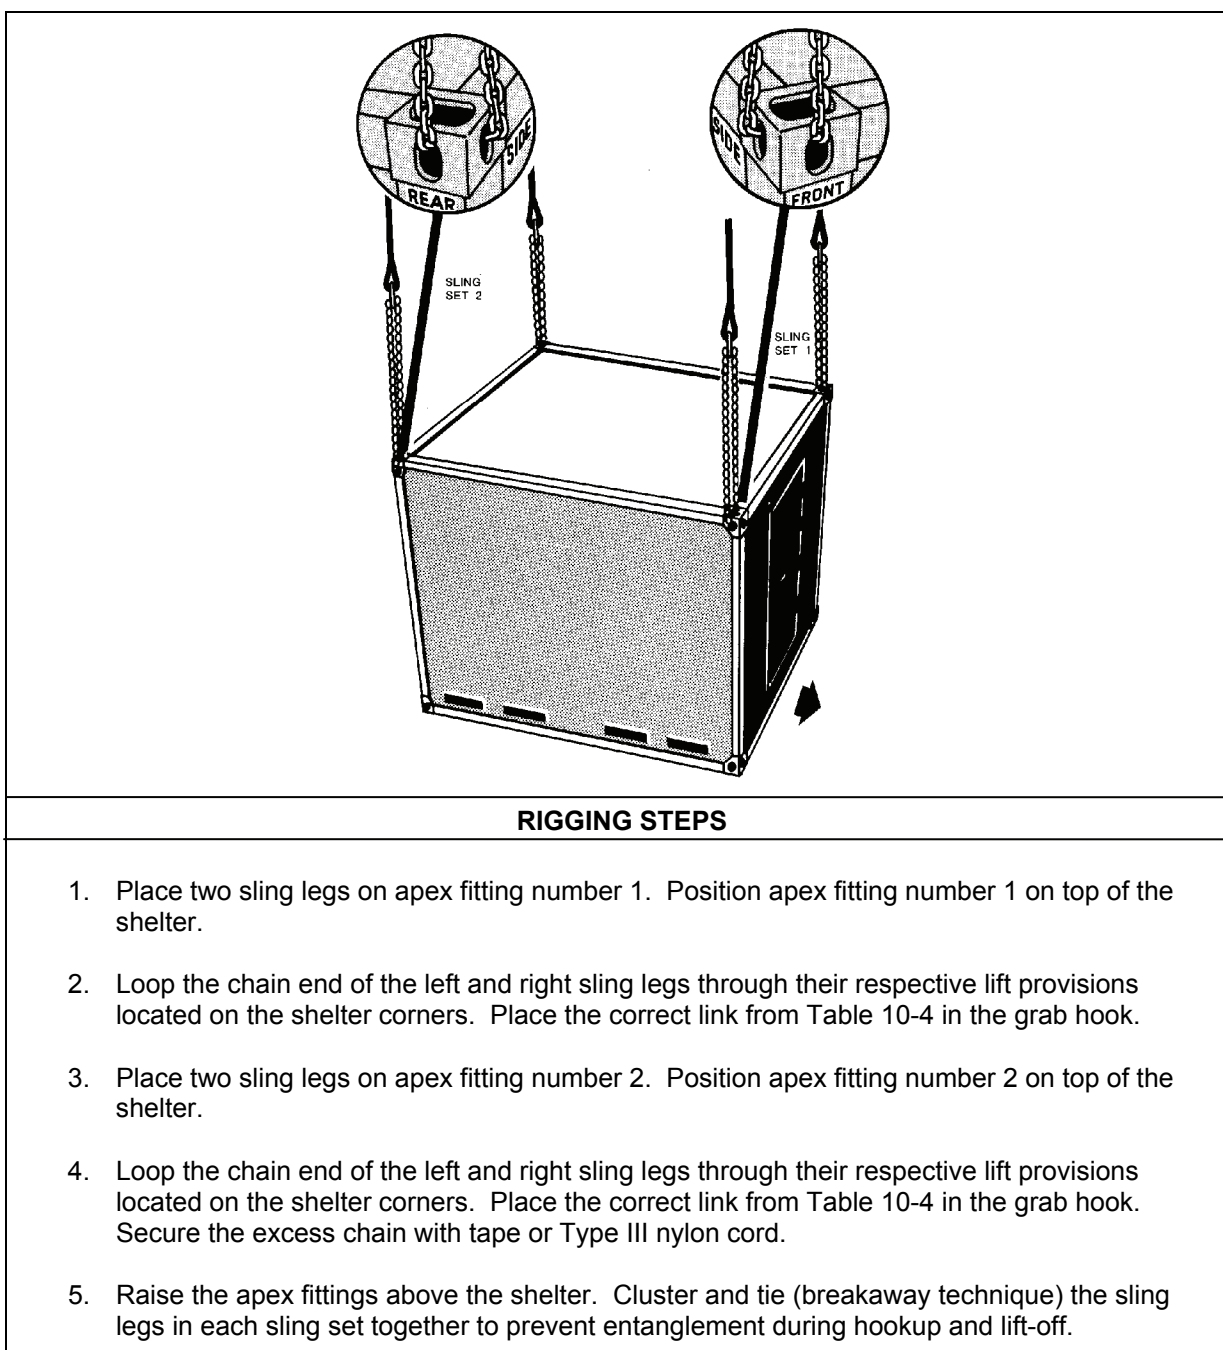

Figure 10-4. 8- x 8-x 10-Foot Shelters
- **Rigging.** Rig the load according to the steps in Figure 10-4.